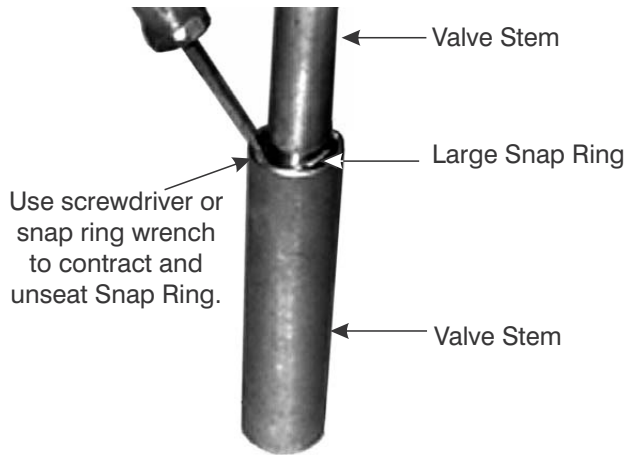

Figure 8-29. Remove Snap Ring from Valve
3. Use either a screwdriver or retaining ring pliers to expand and remove the Snap Ring (4) from the Valve (3) as shown in Figure 8-29.